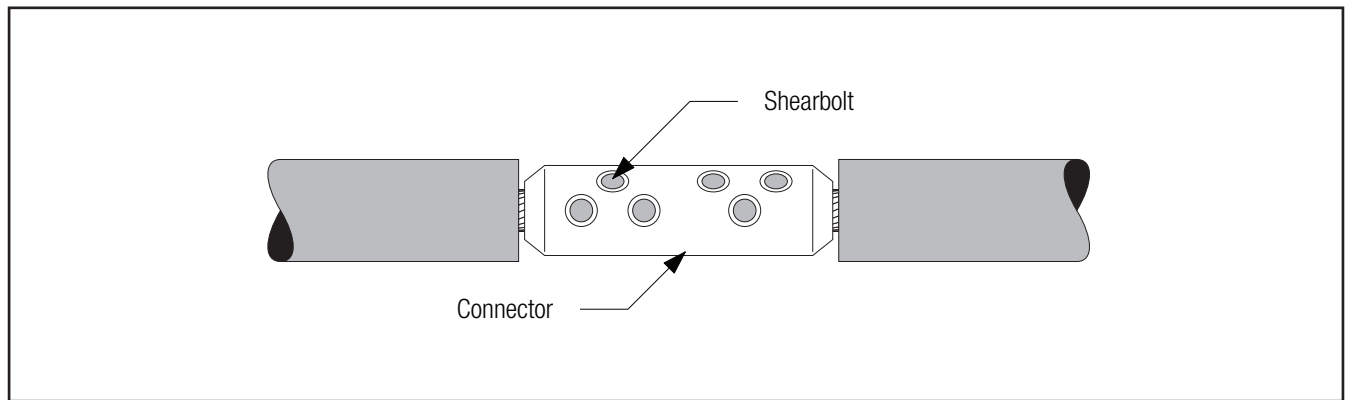

Figure 8
3.2 Install 3M Shearbolt Connector QCI 2-250 according to the instructions included with the connector (*Figure 8*).